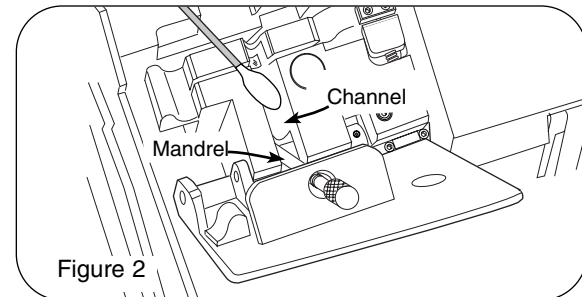

Figure 2
2. Use a dry cotton swab to gently clean out the channels of the LID System (Figure 2).
3. Use a dry cotton swab to clean the mandrels of the LID System (Figure 2).